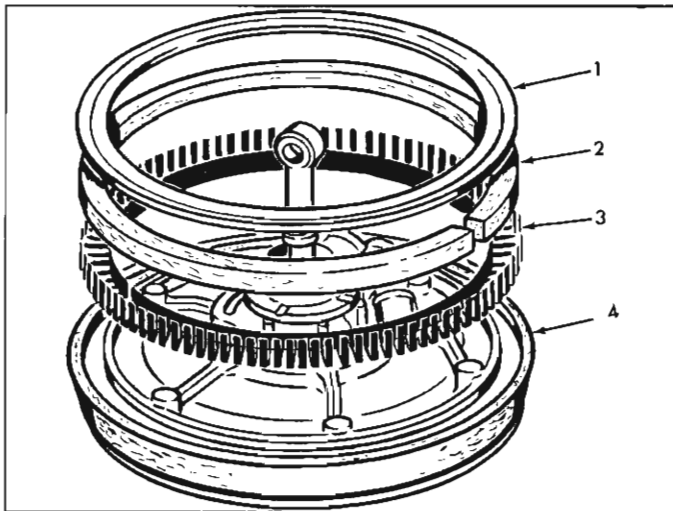

Fig. 34—Removal of Felt Retainer, Felt and Expanding Ring from Piston Assembly
5. Scribe alignment marks across rear shell and vacuum cylinder (front shell) (11). Remove six of the eight end plate attaching screws (1) leaving two opposite screws. Press down on rear shell (2) while removing remaining two screws to prevent piston return spring (10) from expanding.
6. Scribe across face of piston (8) to register with mark on rear shell and remove rear shell with vacuum piston and piston return spring.
7. Pull vacuum hose (9) from vacuum piston and from vacuum tube on inside of rear shell. Separate rear shell from vacuum piston assembly.
8. Remove air cleaner attaching crews (6), vacuum tube and air cleaner assembly (5) and air filter (4) from rear shell.
9. Spring the felt retaining ring (1) sufficiently to disengage ring from grooves in bosses on rear piston plate (fig. 34).